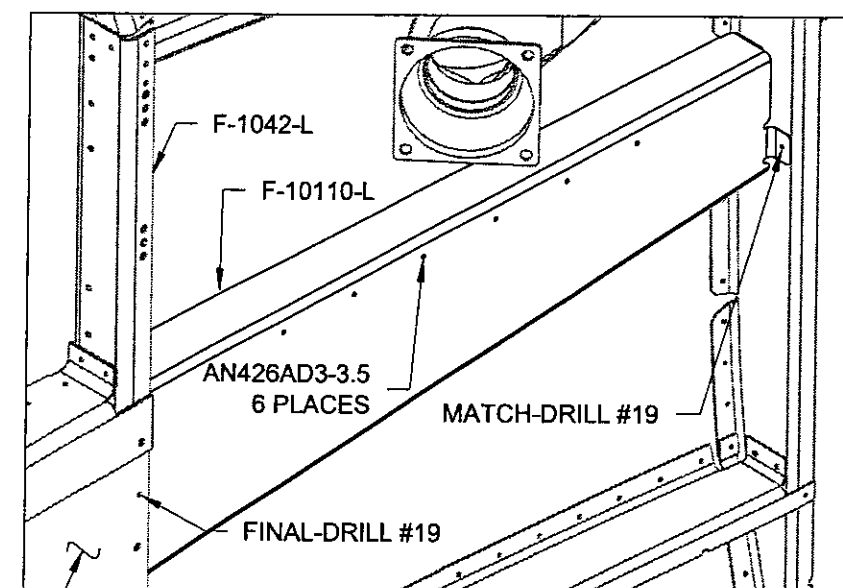

FIGURE 4: FINAL-DRILLING THE SIDE COVER, CHANNEL AND WIRE COVER
Step 5: Remove the F-10110-L Wire Cover Assembly. Replace it positioning the aft tab on the **outboard** side of F-1042-L Bulkhead Side Channel as shown in Figure 4. Drill as per the callouts. Remove the wire cover assembly, disassemble, deburr and dimple the #40 holes.